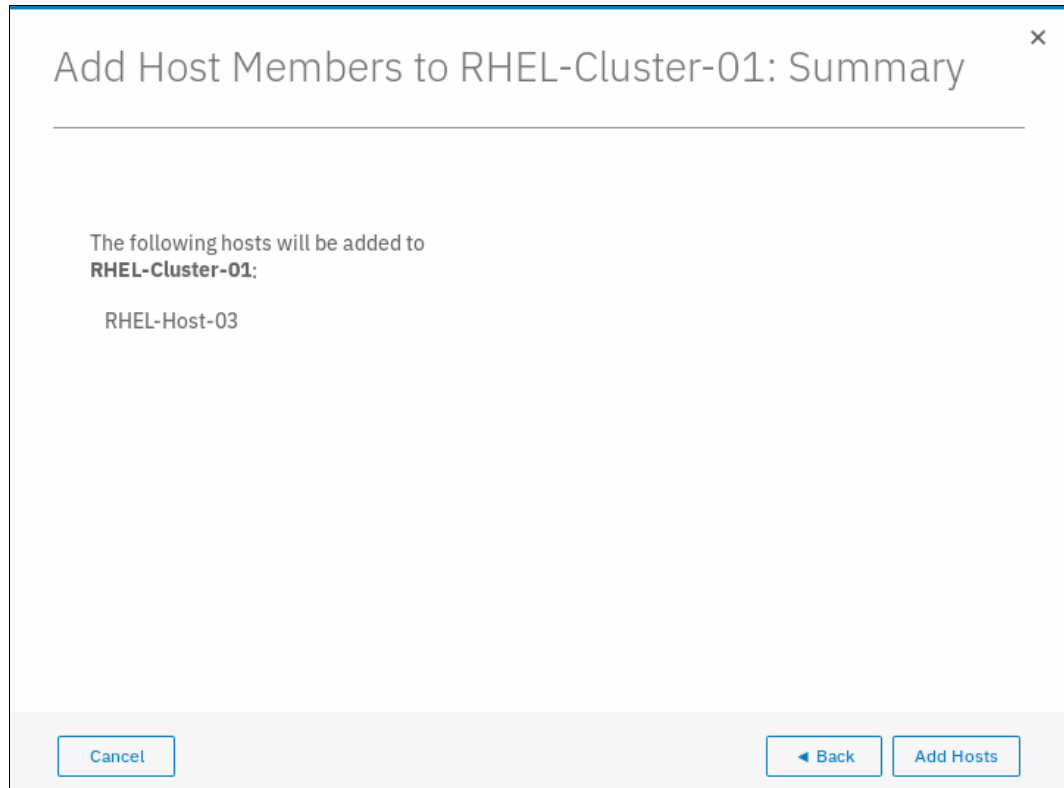

Figure 5-79 Summary of hosts
4. Click **Next** and a summary of the hosts to be added is shown (see Figure 5-79).